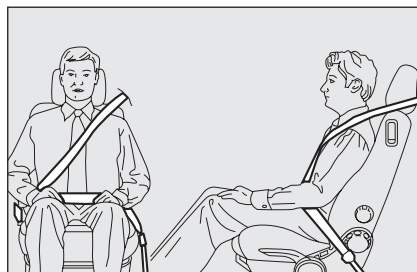

fig. 6
*The belt should not be twisted. The upper part should pass over the shoulder and cross the chest diagonally. The lower part should adhere to the pelvis and not the abdomen of the passenger, see fig. 6. Do not use any objects (pegs, stoppers, etc.) to keep the belts away from the body.*